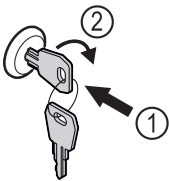

Fig. 131
- ▶ Insert key Fig. 131 (1).
- ▶ Turn key clockwise by 90° Fig. 131 (2).